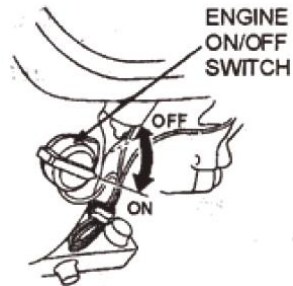

FIG.9
9.5 Place the engine ON/OFF switch (FIG. 9) in the "ON " position.